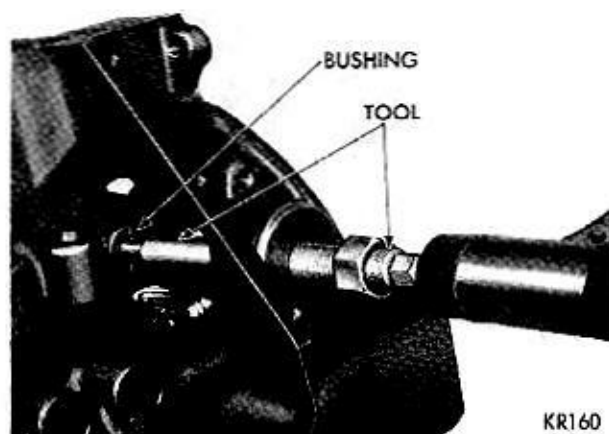

Fig. 32—Installing Distributor Drive Shaft Bushing
(2) Drive bushing and tool into position, using a hammer (Fig. 32).